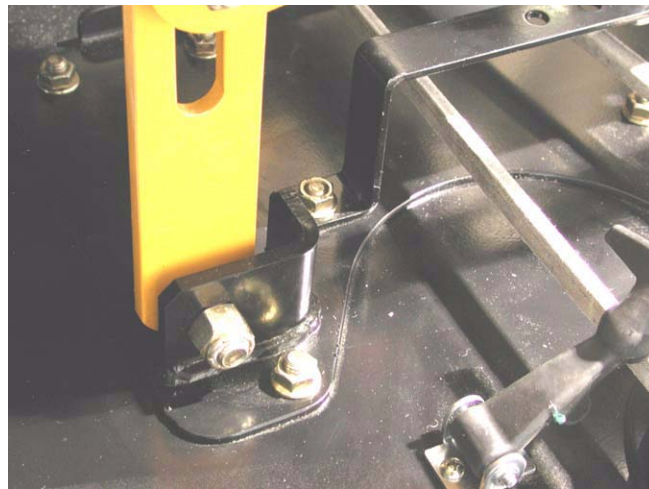

Figure 9.12
- 9.12. The deck support plates are larger this year, to prevent plate bending and separation. See Figure 9.12.